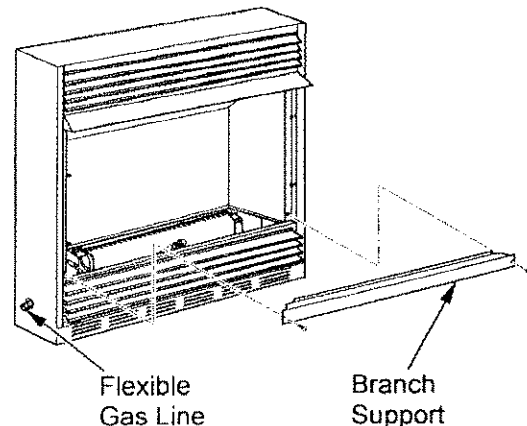

Figure 22 - Removing Branch Support From Fireplace
1. Remove screws that attach branch support to fireplace (see Figure 22). Carefully lift up branch support and remove from fireplace (see Figure 22).
NOTICE: Most building codes do not permit concealed gas connections. A flexible gas line is provided to allow accessibility from the fireplace (see Figure 22). The flexible gas supply line connection to the equipment shutoff valve should be accessible.